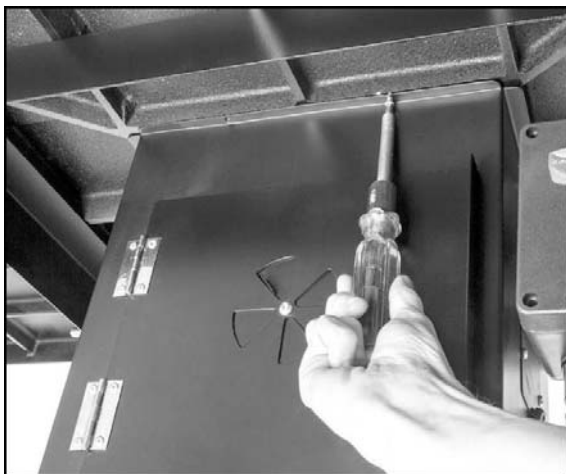

Figure 1
- 1.) Attach the dust box to the underside of the router table using the 6 supplied (10-24 x 3/8") Phillips head screws. You will require a 11/64" drill bit to drill the holes into a metal router table and a 10-24 tap to thread the new mounting holes. If installing in a wooden or mdf router table use #8 3/8" wood screws (wood screws not included). (Please note that the vent should be facing the front of the machine.) See figure 1 below.